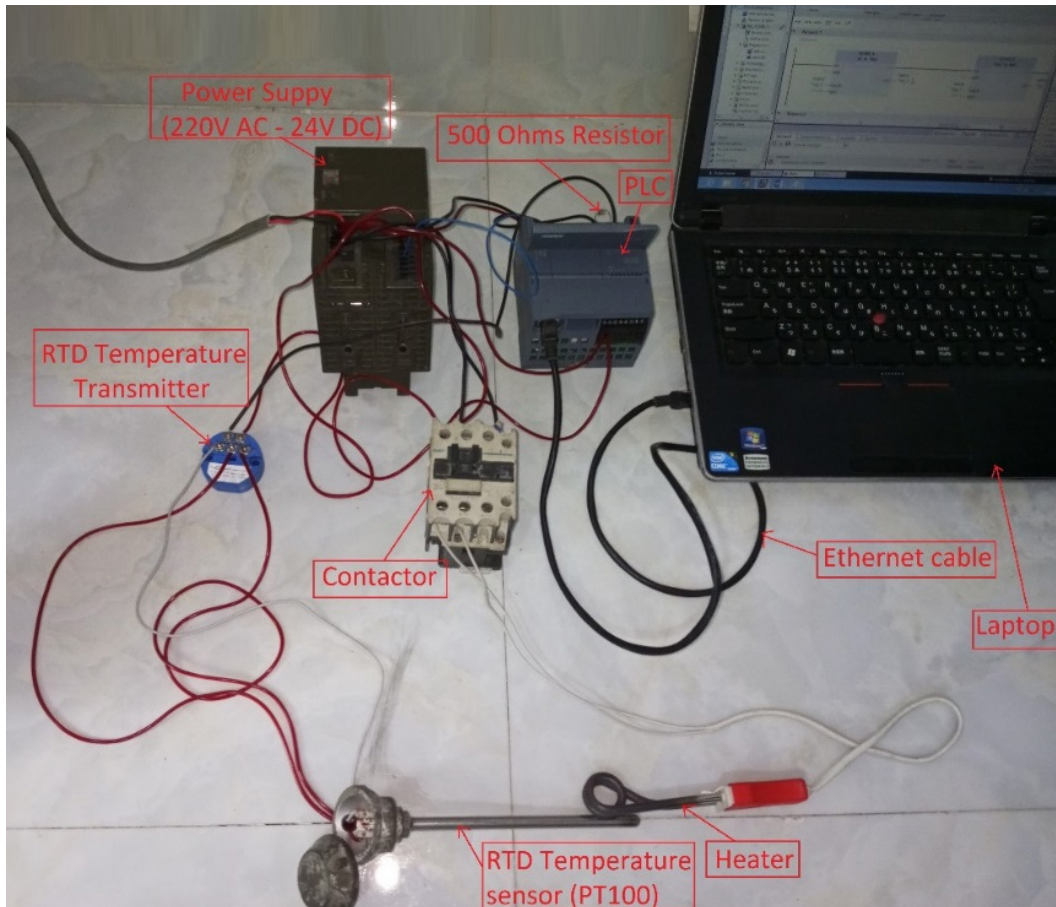

Figure 12.55 – My setup for demonstration purposes
2. Connect one end of the communication cable (the Ethernet cable) to your laptop or PC and connect the other end to the PLC. *Figure 12.55* here shows my simple setup for demonstration purposes: